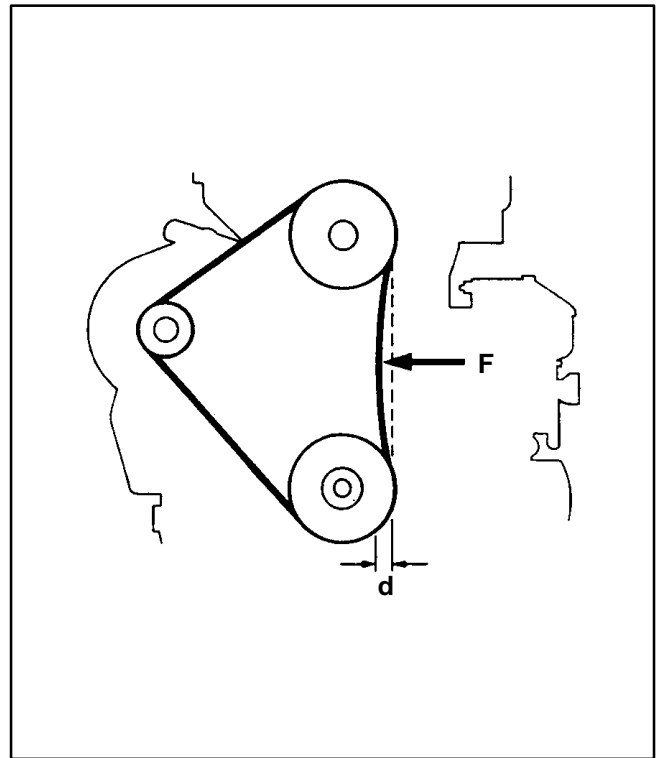

FIGURE 6-3. FAN BELT
To check belt tension, remove the belt guard and push the fan belt midway between the two pulleys shown in Figure 6-3. Use a spring balance to measure force (F) and a straight edge and ruler to measure belt deflection (d). Belt deflection should be 3.5 mm (0.14 in) under a force of 31.0-33.5 N (7.0-7.5 pounds [lbf]) for a new belt and 22.0-24.0 N (5.0-5.4 pounds [lbf]) for a used belt.